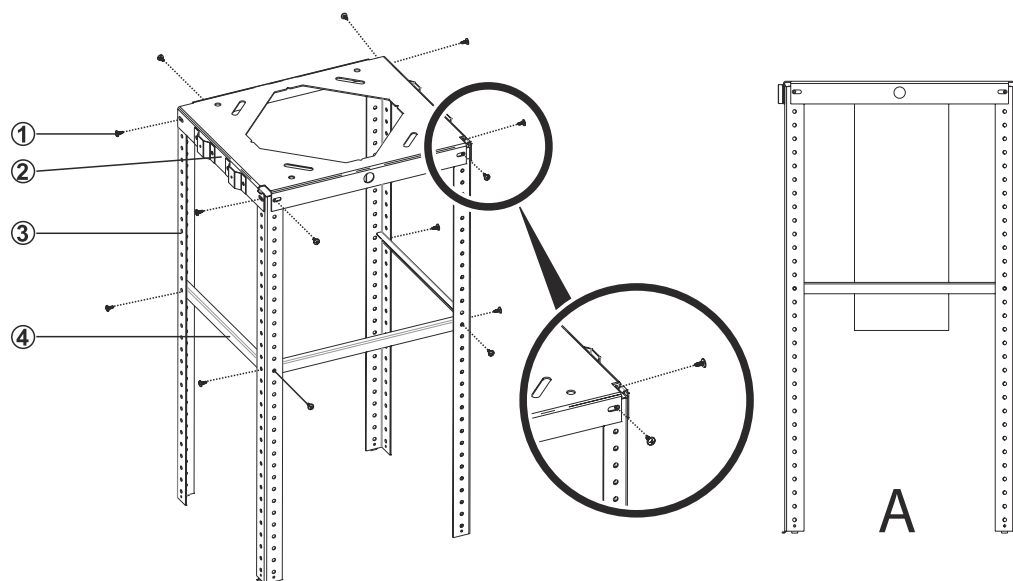

Fig. 11
1. ➔ Install product hanging bars (3) to ceiling hanging plate (2) with 8 pcs. 3.5 x 9.5 r phillips cylinder head screw (1) (Fig. 11).
2. ➔ Install product hanging bars to balance hanging bar balancing components (4) with 6 pcs. 3.5 x 9.5 rysb screw (1) (Fig. 11).
3. ➔ Make the air connections of the product (Fig. 11/A).